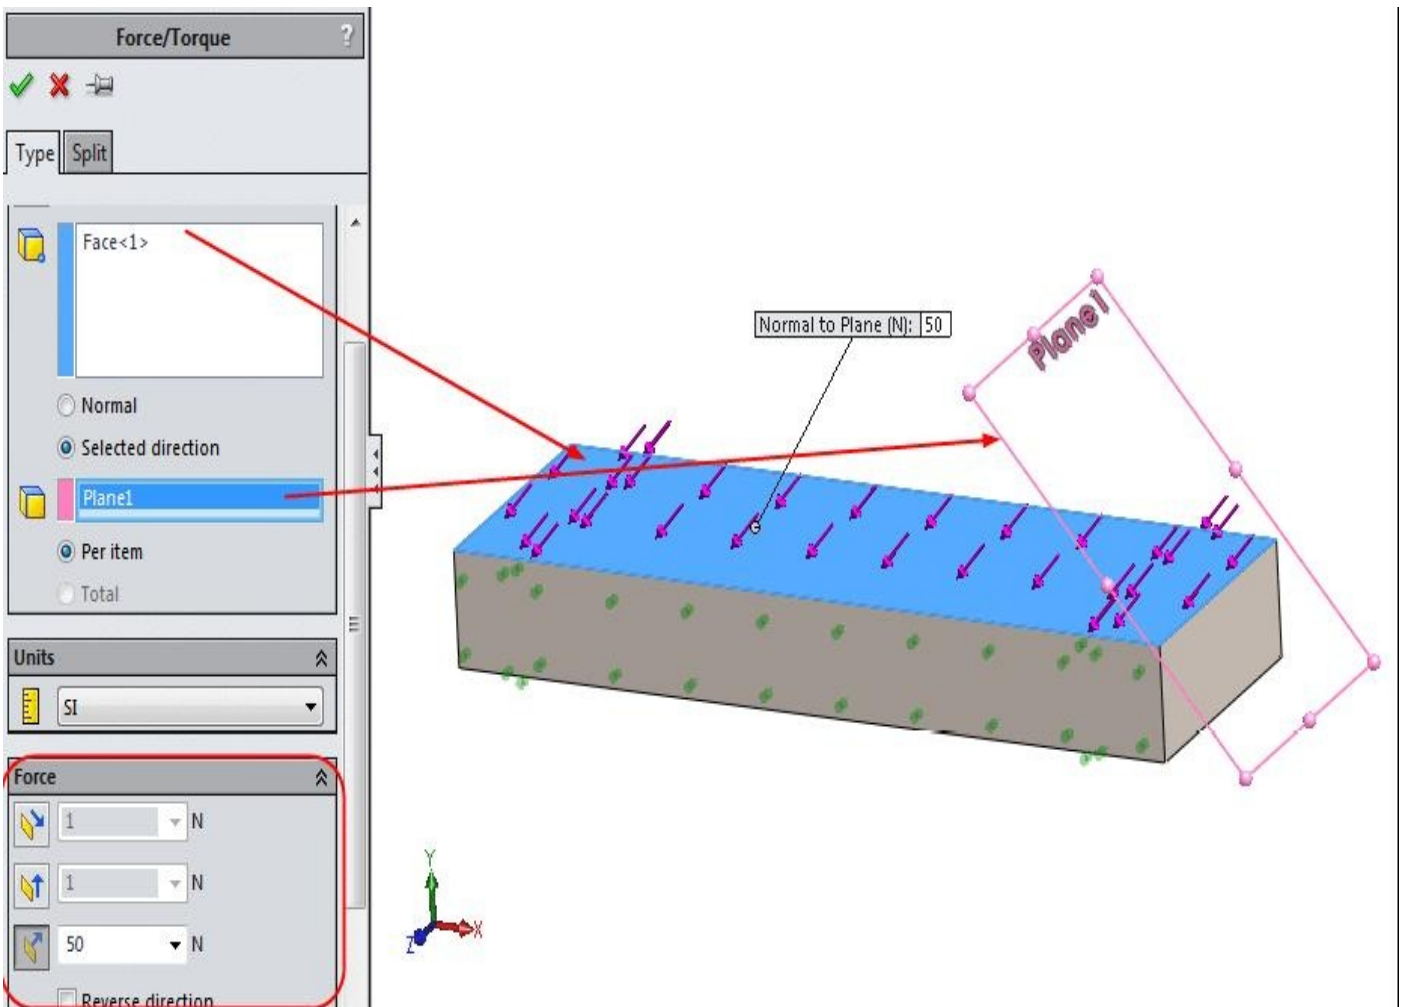

Figure-37. Force applied in selected direction
- Click in this selection box and select a reference to specify the direction of force; refer to Figure-37. Note that you need to select the force vector buttons from the **Force** rollout in the **PropertyManager** to apply forces.